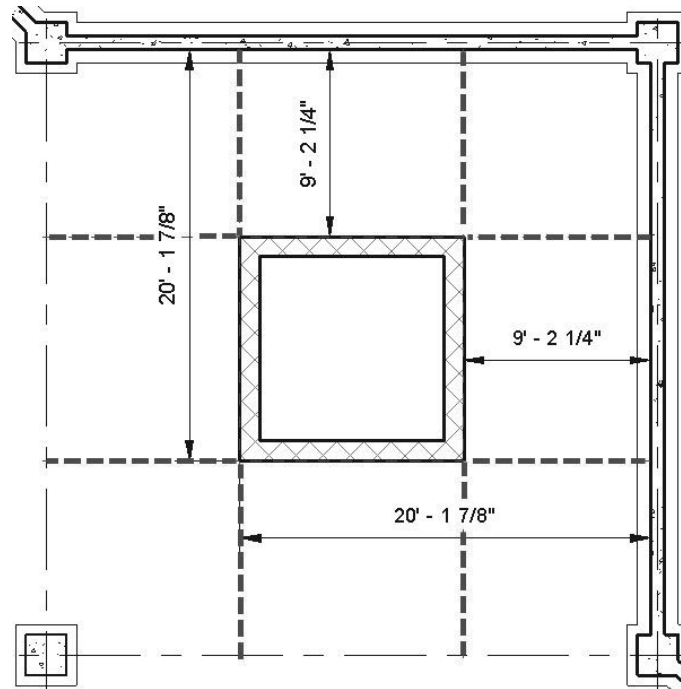

Figure 7–54
13. Draw the walls using the reference planes as a guide, as shown in Figure 7–54.